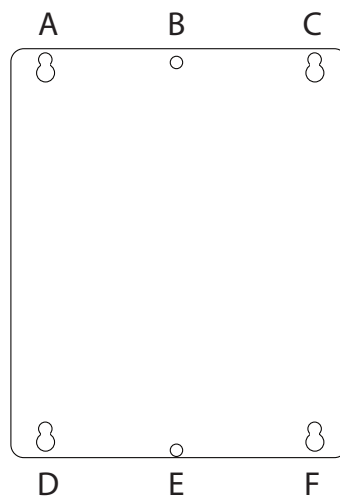

Figure 5. Enclosure Mounting Holes
7. For plywood wall mounting, use a wrench to install a hex lag screw into the four corner holes (holes A, C, D and F), leaving 1/8 in. of each screw exposed (Figure 5). (The enclosure will hang on the exposed ends of each screw.) Then lift and place the enclosure over the exposed screws and against the plywood surface, aligning exposed bolts A, C, D and F with the bottom of the figure-eight-shaped enclosure holes in the enclosure. Tighten the screws as necessary to secure the installation. Then, install two screws into holes B and E in the enclosure. Finally, hand tighten each screw until the enclosure installation is securely attached. Proceed to the wiring instructions, “WattZilla Electrical Wiring Instructions” (page 12).